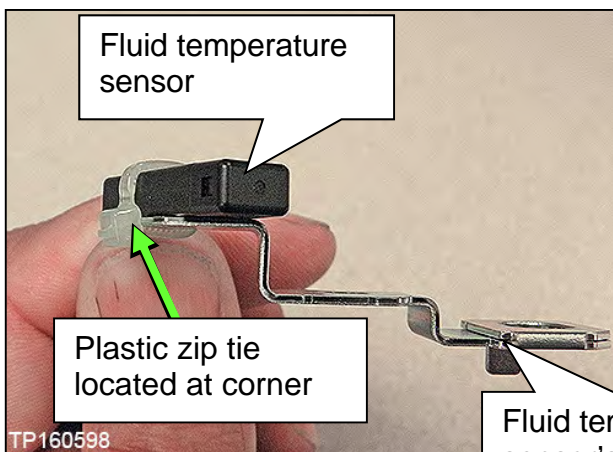
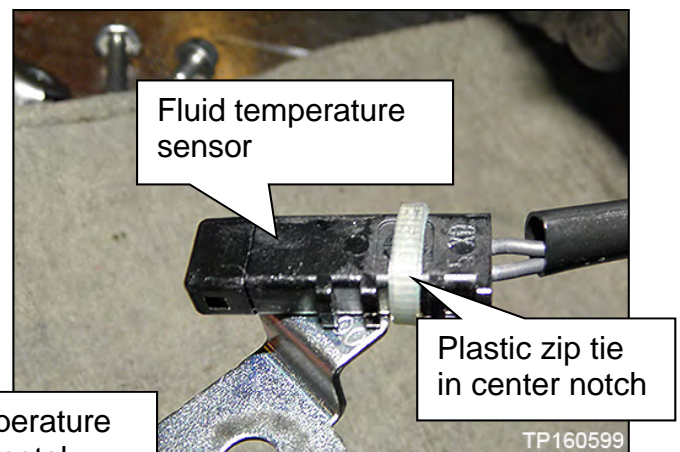

Figure 180
Figure 181
- a. Cut the old plastic zip tie with an appropriate tool to remove the fluid temperature sensor's metal bracket from the terminal harness assembly (Figure 180 and Figure 181).
- o Locate the plastic zip tie at the center notch of three notches on the fluid temperature sensor (Figure 181).
- o Tighten the plastic zip tie so that it is oriented as shown in Figure 181.